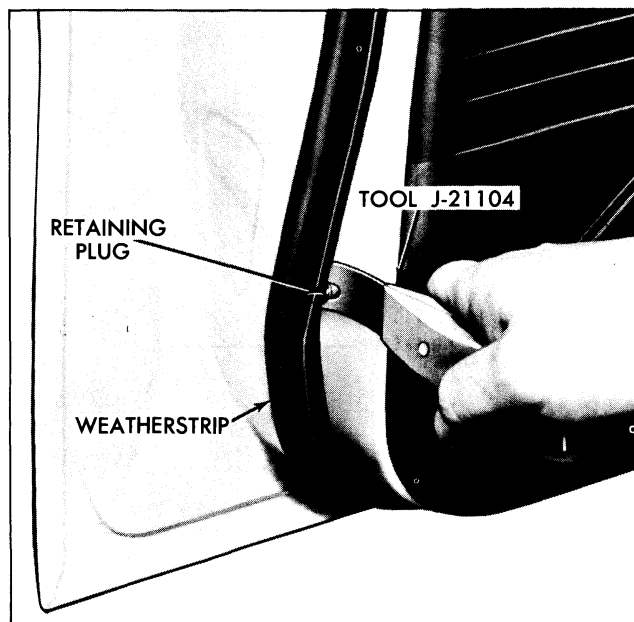

Fig. 3-10 Using Tool J-21104
fastener out of its respective door piercing (Fig. 3-10). Continue around door until all fasteners have been disengaged and remove weatherstrip from door.
2. Slide tool J-21104, or other suitable tool, under weatherstrip at a fastener location and grip fastener as close to door panel as possible; then, gently pry fastener out of its respective door piercing (Fig. 3-10).